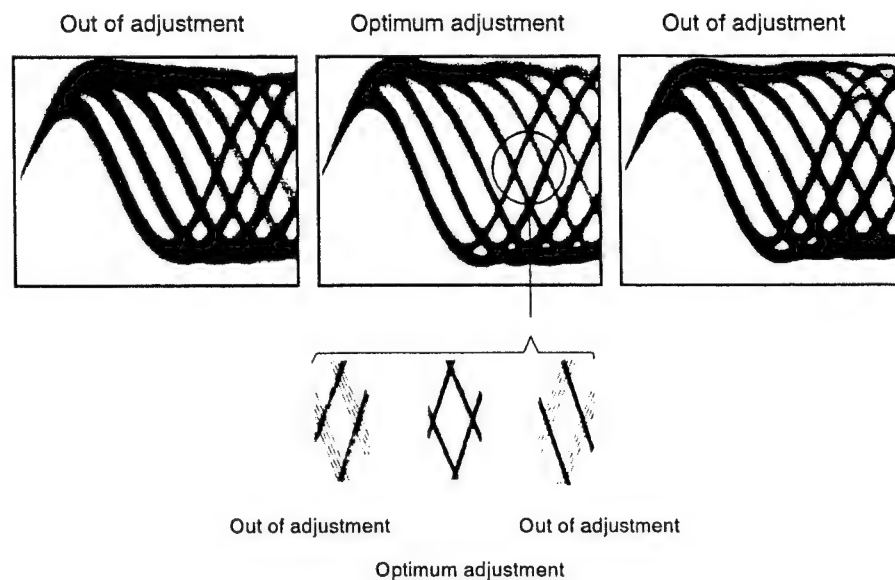

Figure 5 Eye Pattern
3. Next, adjust the tangential tilt adjustment screw with a hex. wrench (L-shaped type, Size: 1.5 mm) so that the eye pattern (the diamond shape at the center of the RF signal) can be seen the most clearly (Figure 5).